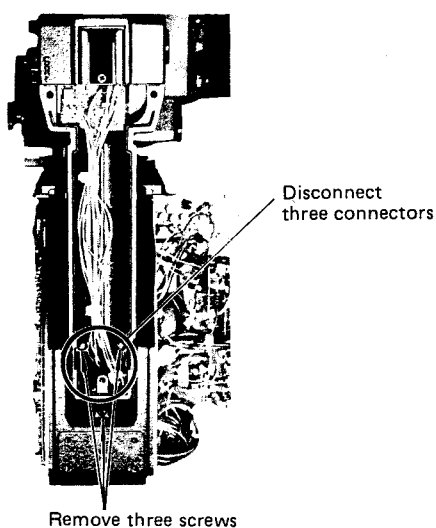

Fig. 3-1-2
- o Remove three screws which hold the handle and remove the handle. (Fig. 3-1-2)
- o Disconnect three connectors. (Fig. 3-1-2)